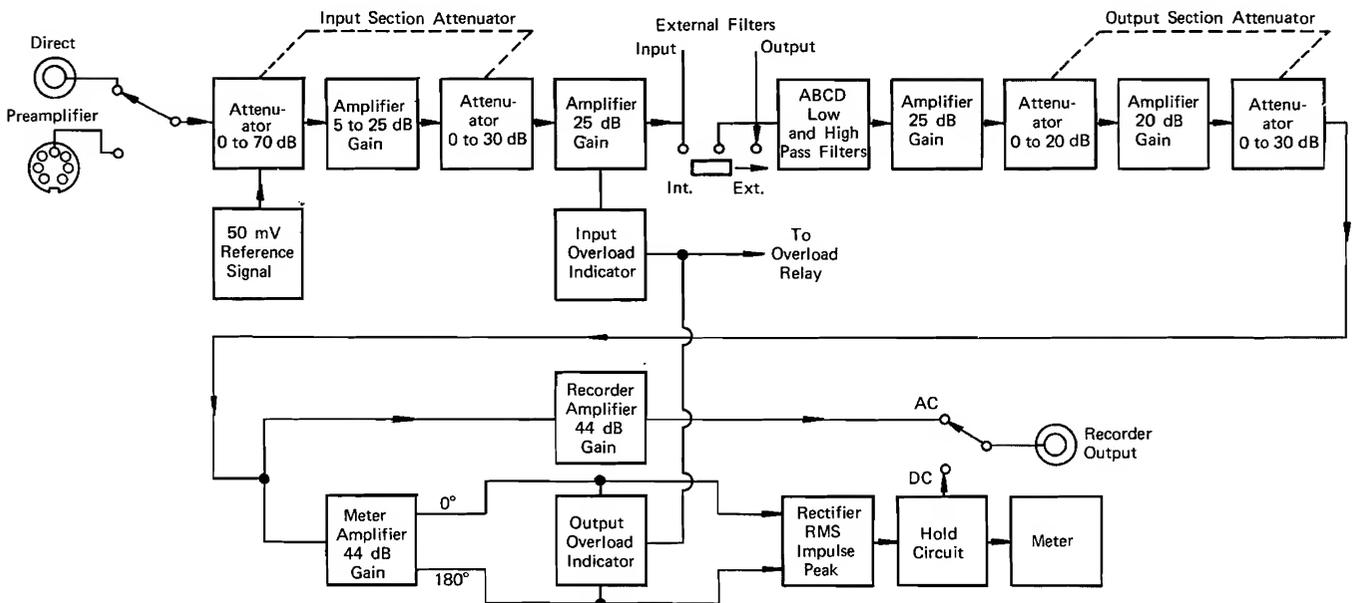

Fig. 4.1. Block diagram of the 2606 Measuring Amplifier
- The measurement characteristics of the 2606 will be discussed with reference to the block diagram of the instrument shown in Fig. 4.1.
In the 2606, the variable squaring characteristic is obtained by feeding back the voltage  $E$  on the averaging capacitor  $C_A$  to the squaring circuit. When the input signal voltage  $e$  (in the actual circuit  $e$  is the in-phase and  $180^\circ$  out of phase signal from the Meter Amplifier. See Fig. 4.1), exceeds the level of the voltage on the averaging capacitor the